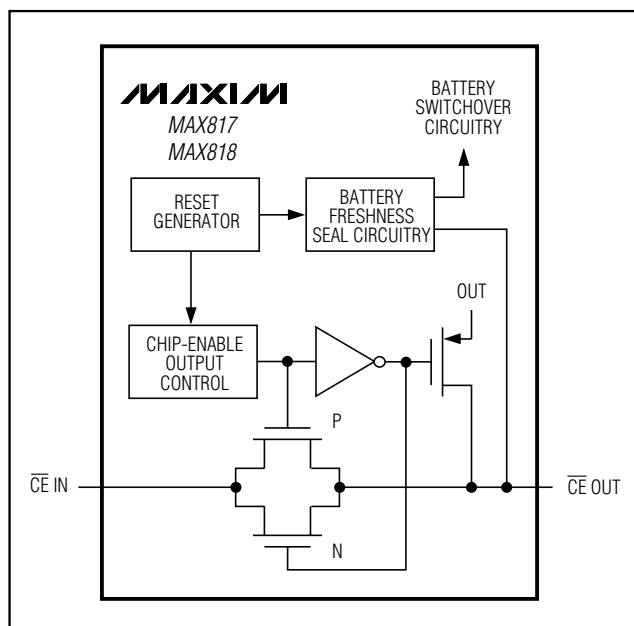

Figure 5. Chip-Enable Transmission Gate
Internal gating of the chip-enable (CE) signal prevents erroneous data from corrupting CMOS RAM in the event of an undervoltage condition. The MAX818 uses a series transmission gate from  $\overline{CE\ IN}$  to  $\overline{CE\ OUT}$  (Figure 5). During normal operation (reset not asserted), the CE transmission gate is enabled and passes all CE transitions. When reset is asserted, this path becomes disabled, preventing erroneous data from corrupting the CMOS RAM. The short CE propagation delay from  $\overline{CE\ IN}$  to  $\overline{CE\ OUT}$  enables the MAX818 to be used with most  $\mu P$ s. If  $\overline{CE\ IN}$  is low when reset asserts,  $\overline{CE\ OUT}$  remains low for typically 15 $\mu s$  to permit the current write cycle to complete.
When the CE transmission gate is enabled, the impedance of  $\overline{\text{CE}}$  OUT is equivalent to a  $40\Omega$  resistor in series with the source driving  $\overline{\text{CE}}$  IN. In the disabled mode, the transmission gate is off and an active pull-up connects  $\overline{\text{CE}}$  OUT to OUT (Figure 5). This pull-up turns off when the transmission gate is enabled.